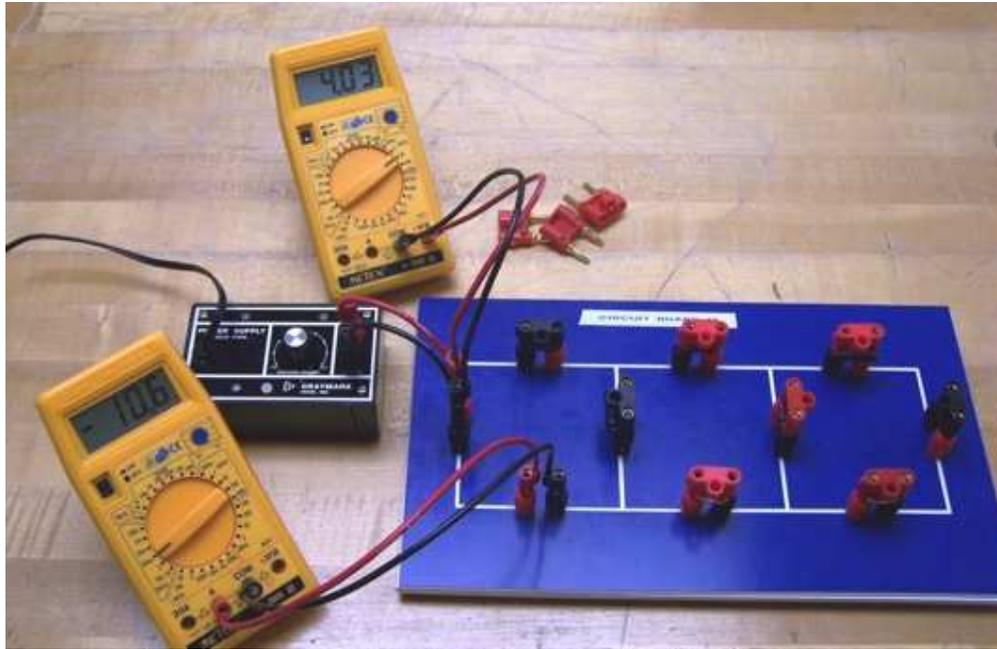
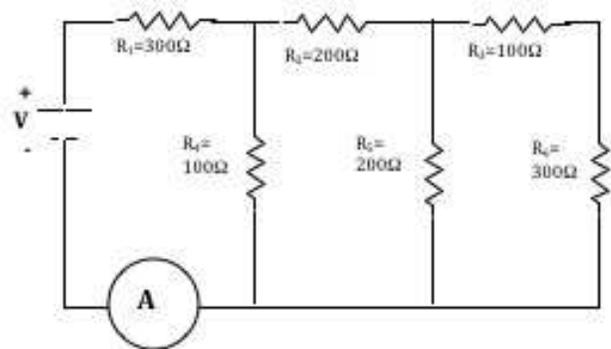

Figure 16.3: Combination Circuit
Figure 16.6: Combination Circuit Schematic
The third type of circuit you will construct is a **combination circuit** (Fig. 16.3 and Fig. 16.6). Resistive elements are not connected in series or parallel. To calculate the total equivalent resistance of a combination circuit, it should first be simplified (reduced to an equivalent resistor, R_{eq}). This is done by choosing resistors that are connected in *either series or parallel*, one step at a time, adding those elements by use of Eq. 16.1 or Eq. 16.2, then proceeding to the next set of elements.
19. Repeat Part 1, Step 1 - Step 8, for the combination circuit (Fig. 16.6).